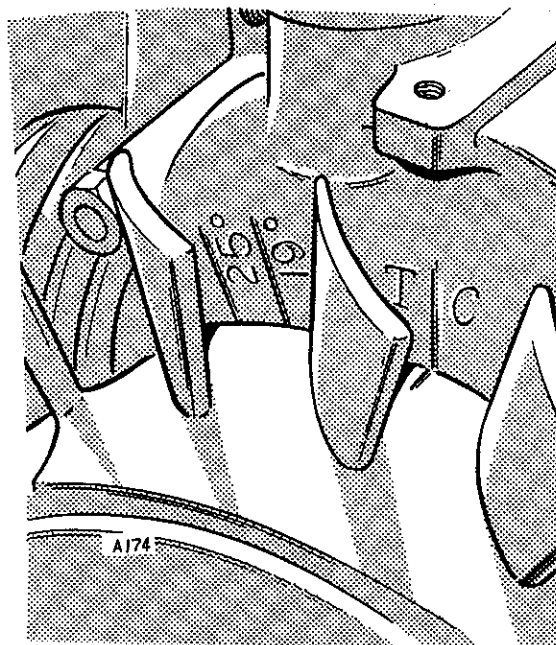

FIGURE 10-19. TIMING ENGINES WITHOUT SPARK ADVANCE
2. Crank engine slowly by hand in direction of crankshaft rotation until timing mark on the flywheel and TC mark on gear cover are exactly in line, Figure 10-19.